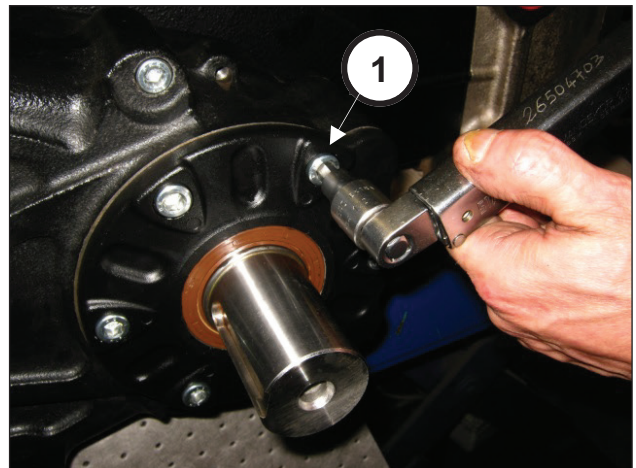

Fig. 82
Tighten the 6 M10x25 screws (pos. ①, Fig. 82). Calibrate the screws with a torque wrench as indicated in chapter 3 SCREW TIGHTENING CALIBRATION.